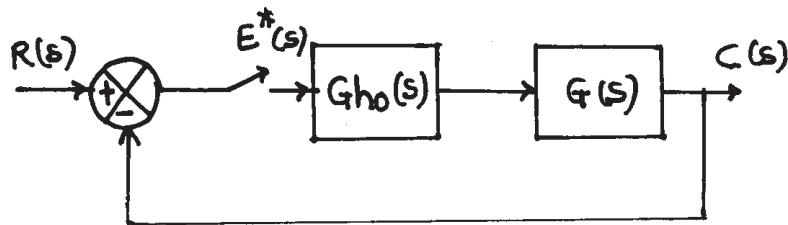

Fig.3
b) A plant shown in Fig.3 is described by the Transfer Function